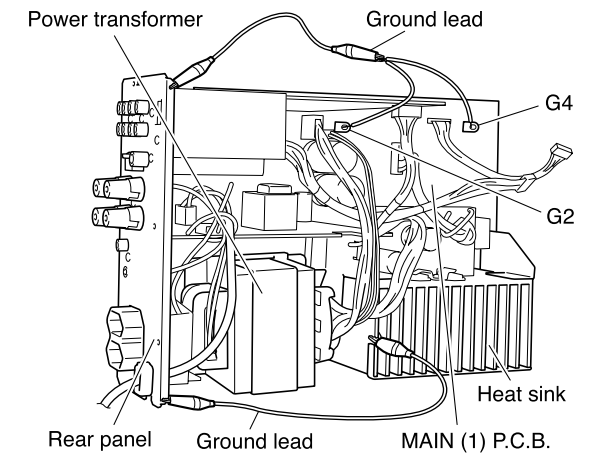

Fig. 5
- j. Remove the power transformer and MAIN P.C.B. (with the rear panel attached) from the main chassis. (Fig. 5)
- k. With the rear panel attached, set the MAIN P.C.B. on its side. At this time, set the power transformer on its side as well. (Fig. 5)
- l. Using a ground lead or the like, connect G2 and G4 of the MAIN P.C.B. with the rear panel. (Fig. 5)